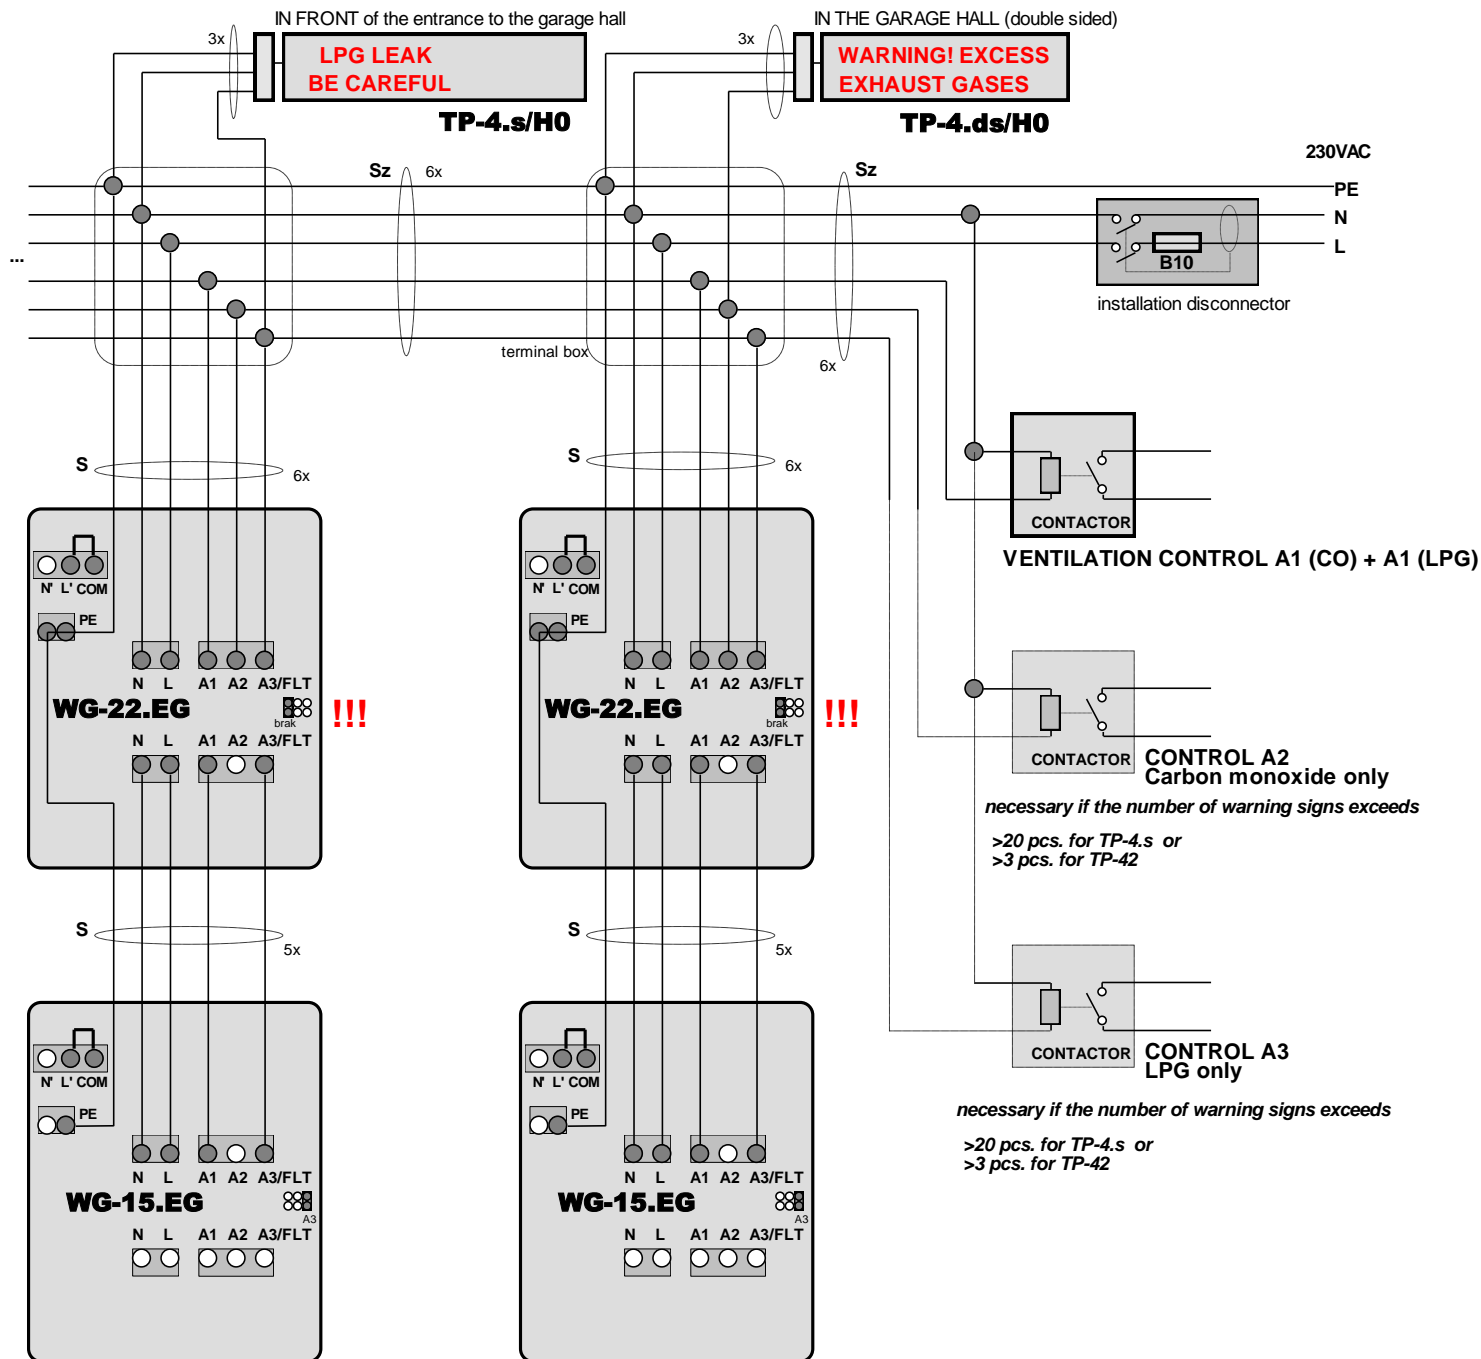

Fig.5.1.G 2-threshold system, SEPARATED exhaust gas (carbon monoxide) and autogas (LPG) leakage signals, *common COM terminal shorted to 'L' [factory-set]*;
Wiring diagrams recommended for the suitable configurations of the garage exhaust control system are shown in Figures 5.1.A–G below.
Fig.5.1.A 2-threshold system, **OPTIMISED economically**, control wires short-circuited to the phase wire in the alarm status (no voltage during normal status), *common COM terminal short-circuited to 'L' [factory-set];* A1 = switching on/intensifying ventilation, A3 = activation of warning signs.
Fig.5.1.B 3-threshold system, **OPTIMISED functionally**, control wires short-circuited to the phase wire in the alarm status (no voltage during normal status), *common COM terminal short-circuited to 'L' [factory-set];*
Fig.5.1.C 3-threshold system, 12 V_{DC} power supply, control wires separated from power supply wires (more balanced current load); similar scheme for system with 24 V power supply_{DC};
Fig.5.1.D 3-threshold system (or 2-threshold with fault status indication), control circuits SEPARATED from the power supply – can be combined with BMS or other ventilation control systems – *common COM terminal separated (factory-set jumper removed)*
Fig.5.1.E 2-threshold system, control wires short-circuited in alarm status to the neutral wire (live during normal status) – compatible with previous versions: WG-22.EN, WG-2.E; common COM terminal shorted to 'N'; A1 = switching on/intensifying ventilation, A2 (CO) = A3(LPG) = activation of warning signs
Fig.5.1.F Supplement/extension of the 2-threshold ventilation control system in garages with older type detectors, e.g. WG-2.L or WG-22.G – *common COM terminal separated (factory-set jumper removed)*